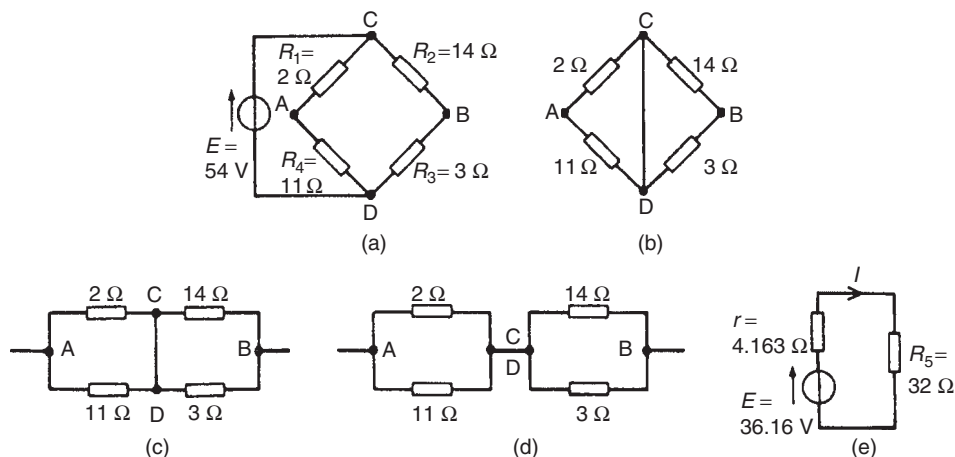

Figure 13.48
- (i) The $32\ \Omega$ resistor is removed from the circuit as shown in Fig. 13.48(a)
- (iii) Replacing the source of e.m.f. with a short-circuit (i.e. zero internal resistance) gives the circuit shown in Fig. 13.48(b). The circuit is redrawn and simplified as shown in Fig. 13.48(c) and (d), from which the resistance between terminals A and B,
- (iv) The equivalent Thévenin's circuit is shown in Fig. 13.48(e), from which, current